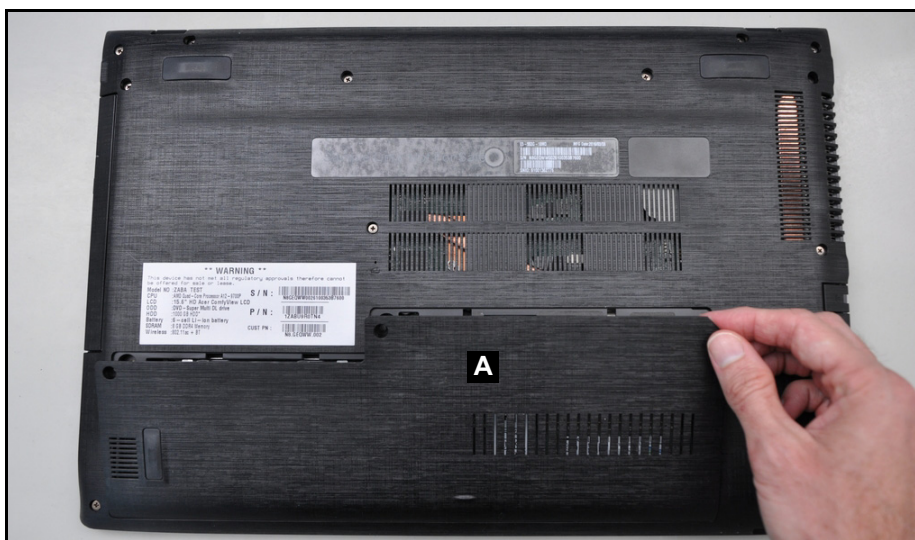

Figure 3-8. HDD Door Removal
2. Lift the right side of the HDD door (A) away from the system and remove the HDD door (A) (Figure 3-8).